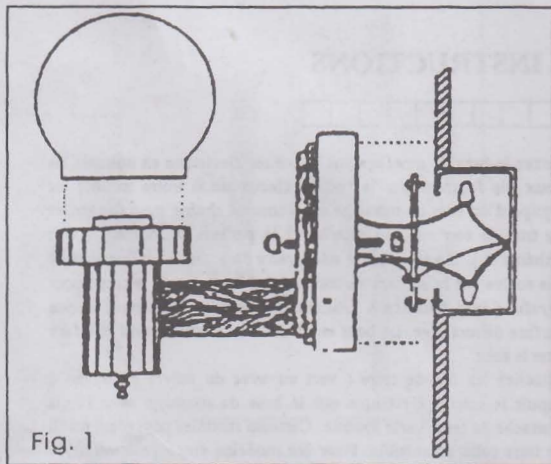
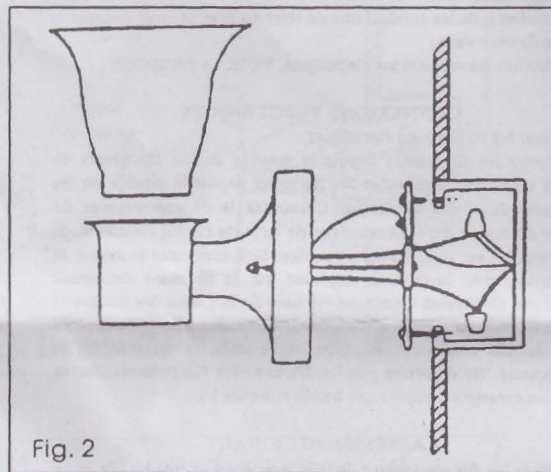
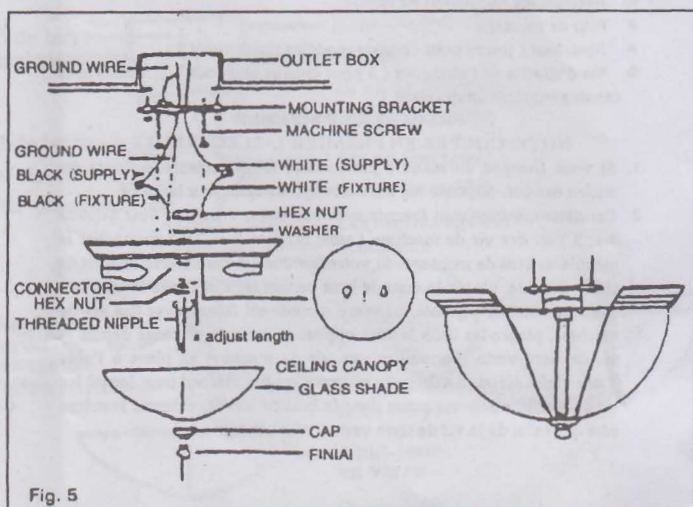

Fig. 1
Fig. 2
Fig. 5
2. Some fixtures are provided with a threaded nipple (see Fig. 1 and Fig. 5) or machine screws (see Fig. 2 and 2A) for attaching the fixture to the mounting bracket. If your fixture is supplied with a threaded nipple screw, the nipple is complete. Insert into the mounting bracket and lock into place with a hexagon lock nut. If your fixture is supplied with machine screw, thread the machine